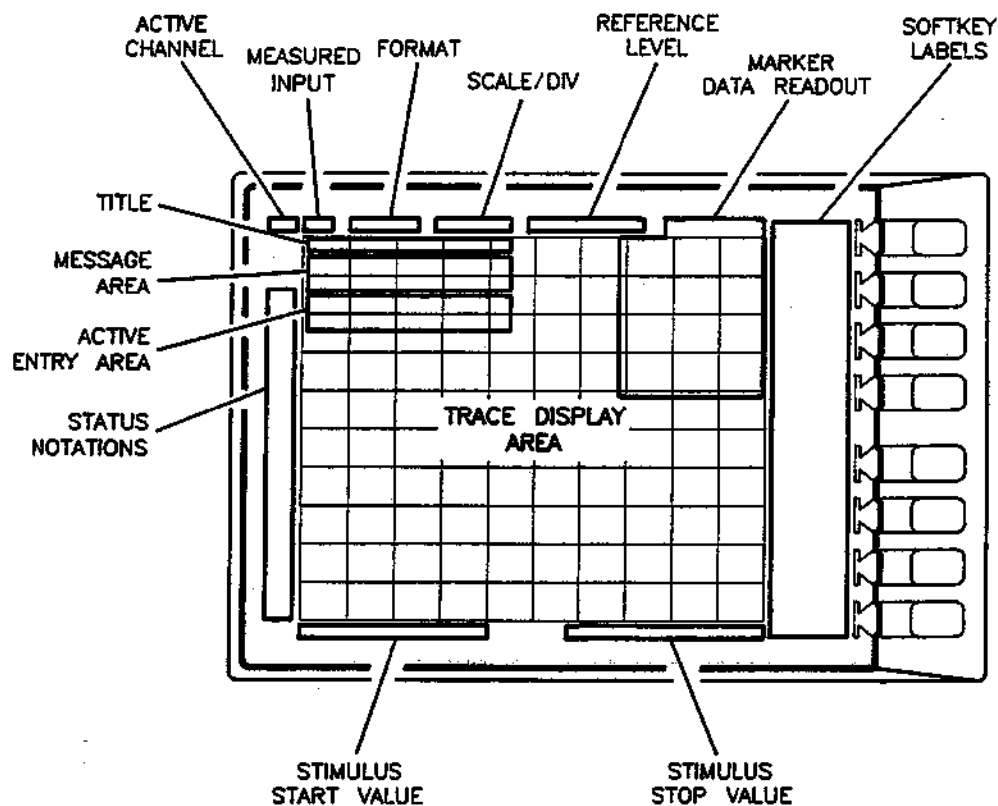

Figure 5-2. Display (Single Channel, Cartesian Format)
2. **Display.** In addition to the measurement traces, the display provides useful messages, softkey labels, marker values and other information. The display is divided into specific information areas, illustrated in Figure 5-2.
Figure 5-2 illustrates the locations of the different display information labels, described below.